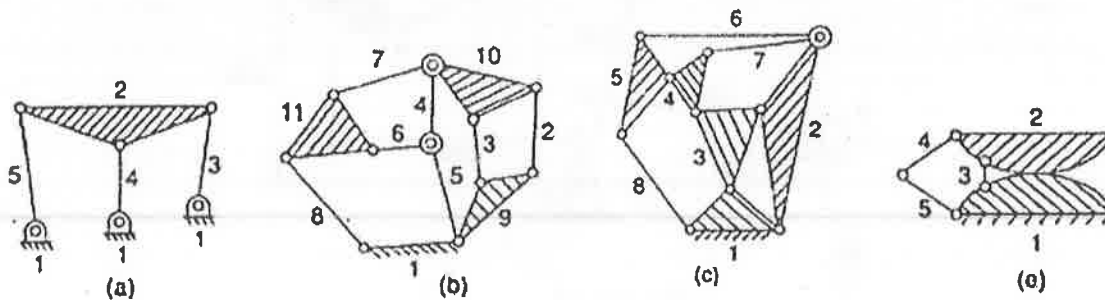

Fig.11
11. a) State whether the following links shown in fig. 11 (a, b, c and e) are mechanisms with one degree of freedom. If not make suitable changes but the number of links should not be varied more than one (13)